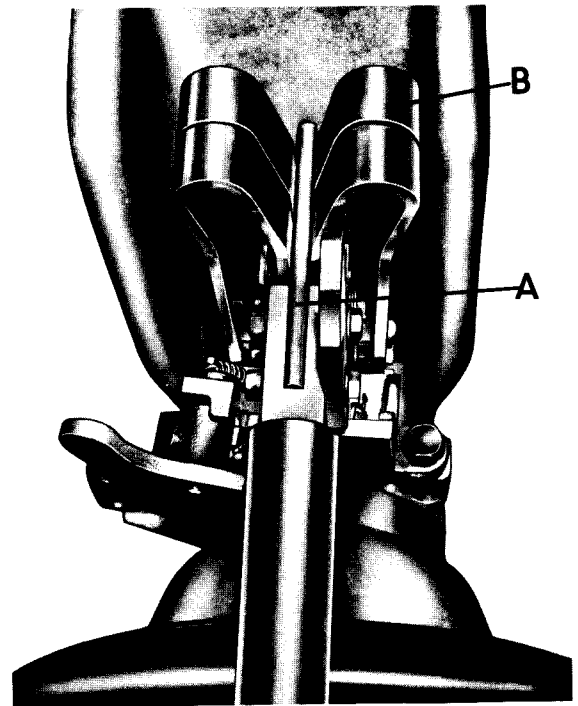

Fig. 5. Proper engagement of blade contact bar in switch jaw contacts.
Partially open and reclose the switch blade, checking to see that the blade contact bar (A in Fig. 5) enters the switch jaw contacts (B) squarely. Adjustment can be made by shifting the actuating mechanism relative to the mounting holes in the structure or by adjusting the insulators. If the switch blade must be rotated in the switch blade clamp, follow procedure outlined in Step 12. Tighten all mounting bolts when adjustment is satisfactory. **Leave the switch blade in the closed position.**